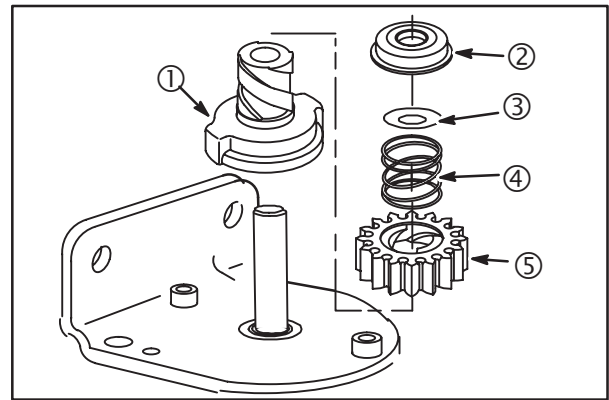

Fig. 8
1. Assemble clutch drive (1) to starter shaft. Rotate clutch until it drops into place, **Fig. 8**.
2. Install pinion gear (5) with beveled side of teeth up. Then install return spring (4) making sure spring is in recess of starter gear.
3. Install spring washer (3) with concave side up. Install retainer (2).